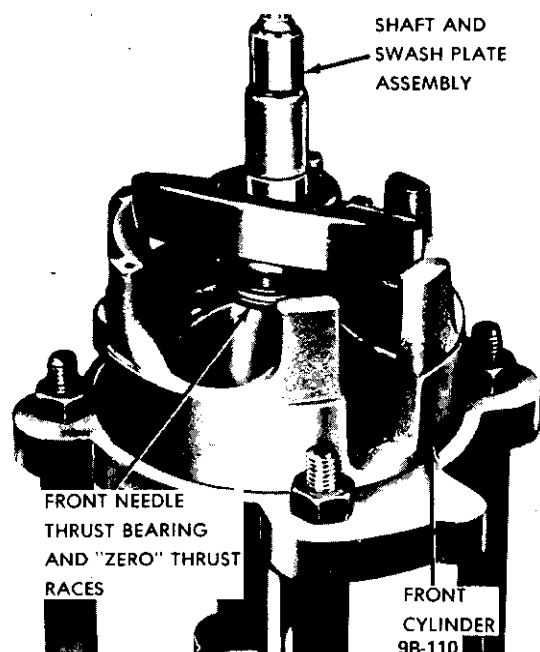

Figure 9B-137 Shaft and Front Needle Thrust Bearing in Cylinder Half
3. Generously coat with clean petroleum jelly two "zero" thrust races, and a new needle thrust bearing. Assemble races and bearing to front end of shaft and swash plate assembly and insert assembly into front cylinder (see Figure 9B-137).